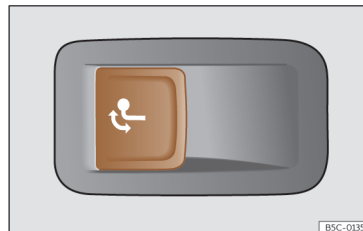

Fig. 199 On the left side of the luggage compartment: button for unlocking the tow hook.
- Pull the >>> **Fig. 199** button briefly. The tow hook unlocks electrically and automatically turns outwards. The button's control lamp flashes.
- Pull the >>> **Fig. 199** button briefly. The tow hook unlocks electrically.
- If the warning light on the button >>> **Fig. 199**  *flashes*, this means that the tow hook has not been attached properly or is damaged >>> .
- If the warning lamp >>> **Fig. 199**  *remains on* with the rear lid open, the tow hook is correctly in place both when extracted and when covered.
- Never press the >>> **Fig. 199** button when there is a trailer hooked to the vehicle or when a carrier system or other accessories are mounted on the tow hook.